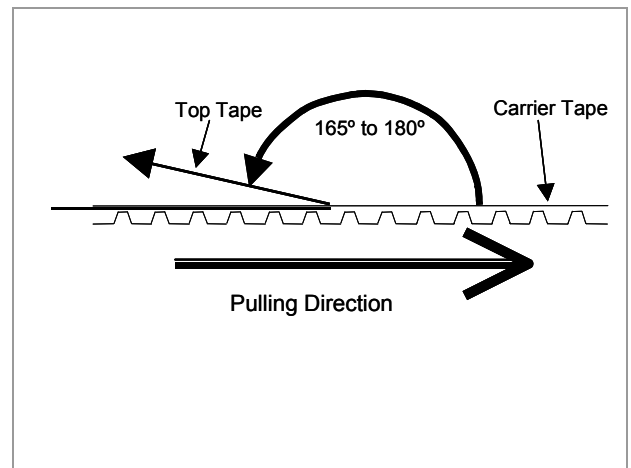

Fig.10 Peeling Strength
- The power peeling top tape from carrier one shall be $0.1N$ {10gf} to $0.7N$ {70gf}. "Fig.10"